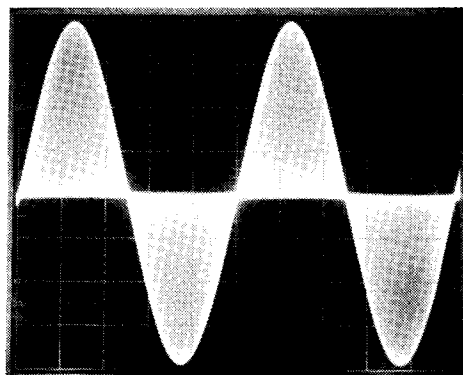

Fig. 4-1: Scope Pattern for Separation Test
- G ☐ Set the oscillator frequency to 1kHz, and adjust the oscillator output level and the scope sweep rate to produce a scope pattern that looks like Fig. 4-1 below.